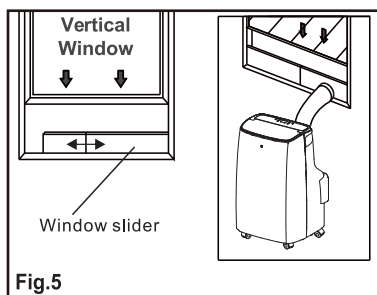

Fig.5
- 4 .Affix the hose outlet into the window slider kit and seal. (Fig.5 &6).
1. Affix the hose outlet into the window slider kit and seal. (Fig.5 &6).